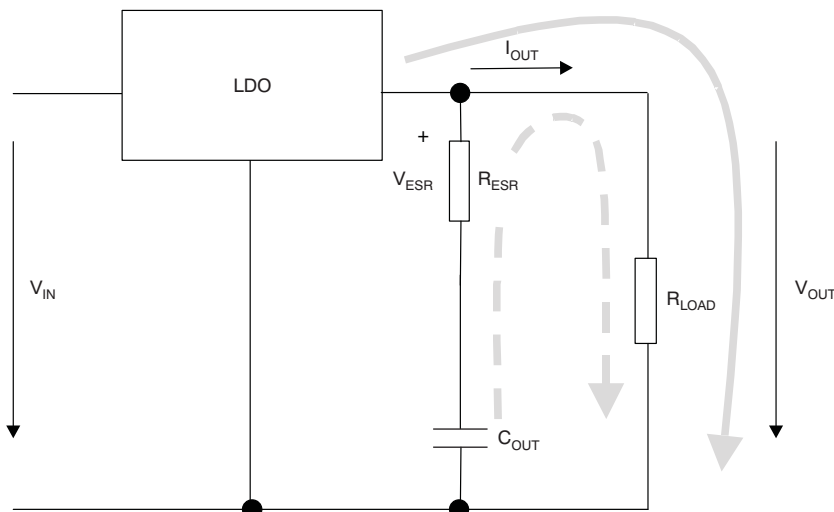
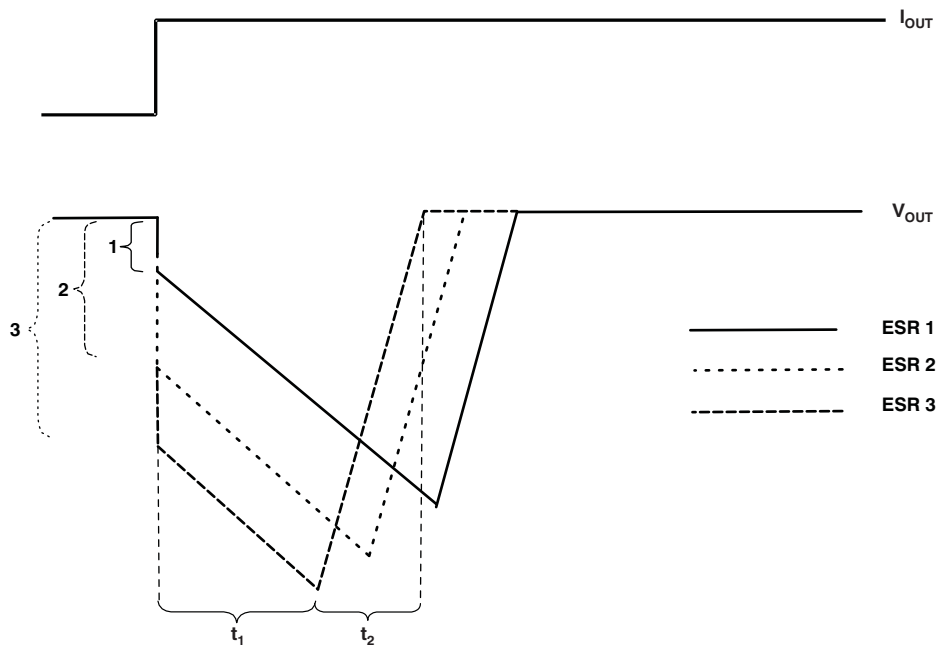

Figure 23. LDO Output Stage With Parasitic Resistances ESR and ESL
Figure 24. Correlation of Different ESRs and Their Influence to the Regulation of V_{OUT} at a Load Step From Low-to-High Output Current
Figure 23 shows the output capacitor and its parasitic impedances in a typical LDO output stage.
- The LDO is not able to supply the sudden current need because of its response time (t_1 in Figure 24). Therefore, capacitor C_{OUT} provides the current for the new load condition (the dashed arrow). C_{OUT} now acts like a battery with an internal resistance, ESR. Depending on the current demand at the output, a voltage drop occurs at R_{ESR} . This voltage is shown as V_{ESR} in Figure 23.
- When C_{OUT} is conducting current to the load, initial voltage at the load is $V_{OUT} = V(C_{OUT}) - V_{ESR}$. As a result of the discharge of C_{OUT} , the output voltage V_{OUT} drops continuously until the response time t_1 of the LDO is reached and the LDO resumes supplying the load. From this point, the output voltage starts rising again until it reaches the regulated voltage. This period is shown as t_2 in Figure 24.
Figure 24 also shows the impact of different ESRs on the output voltage. The left brackets show different levels of ESRs where number 1 displays the lowest and number 3 displays the highest ESR.